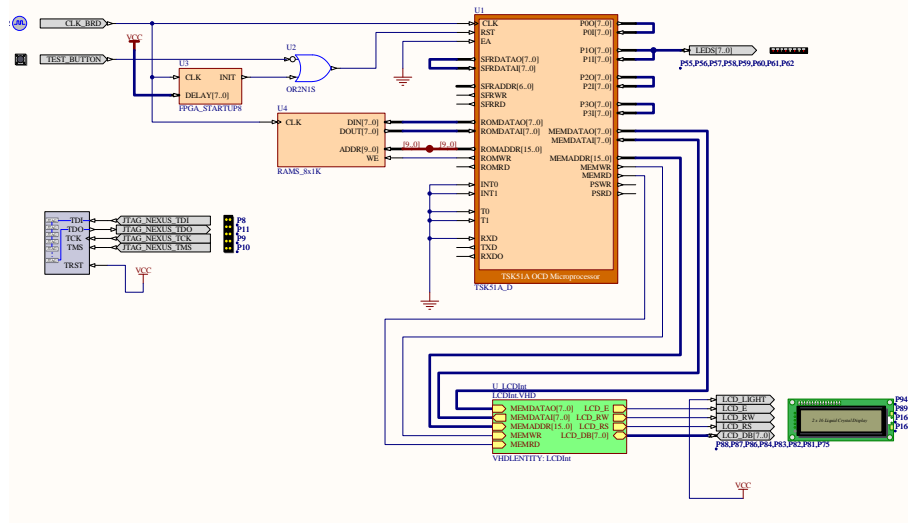

Figure 4: Top level schematic without using the LCD controller
- Implement the design on the NanoBoard by writing a simple test program. The top level schematic is shown in Figure 4. The test code is shown on Page 12.